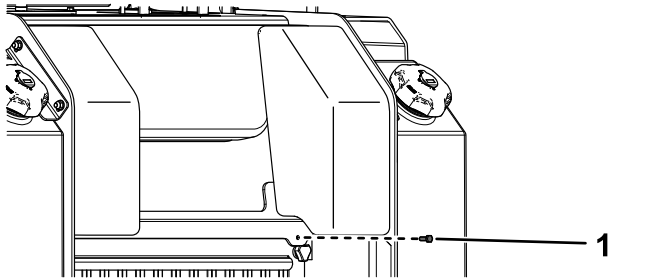

Figure 34
1. Retirez la fixation (Figure 34).